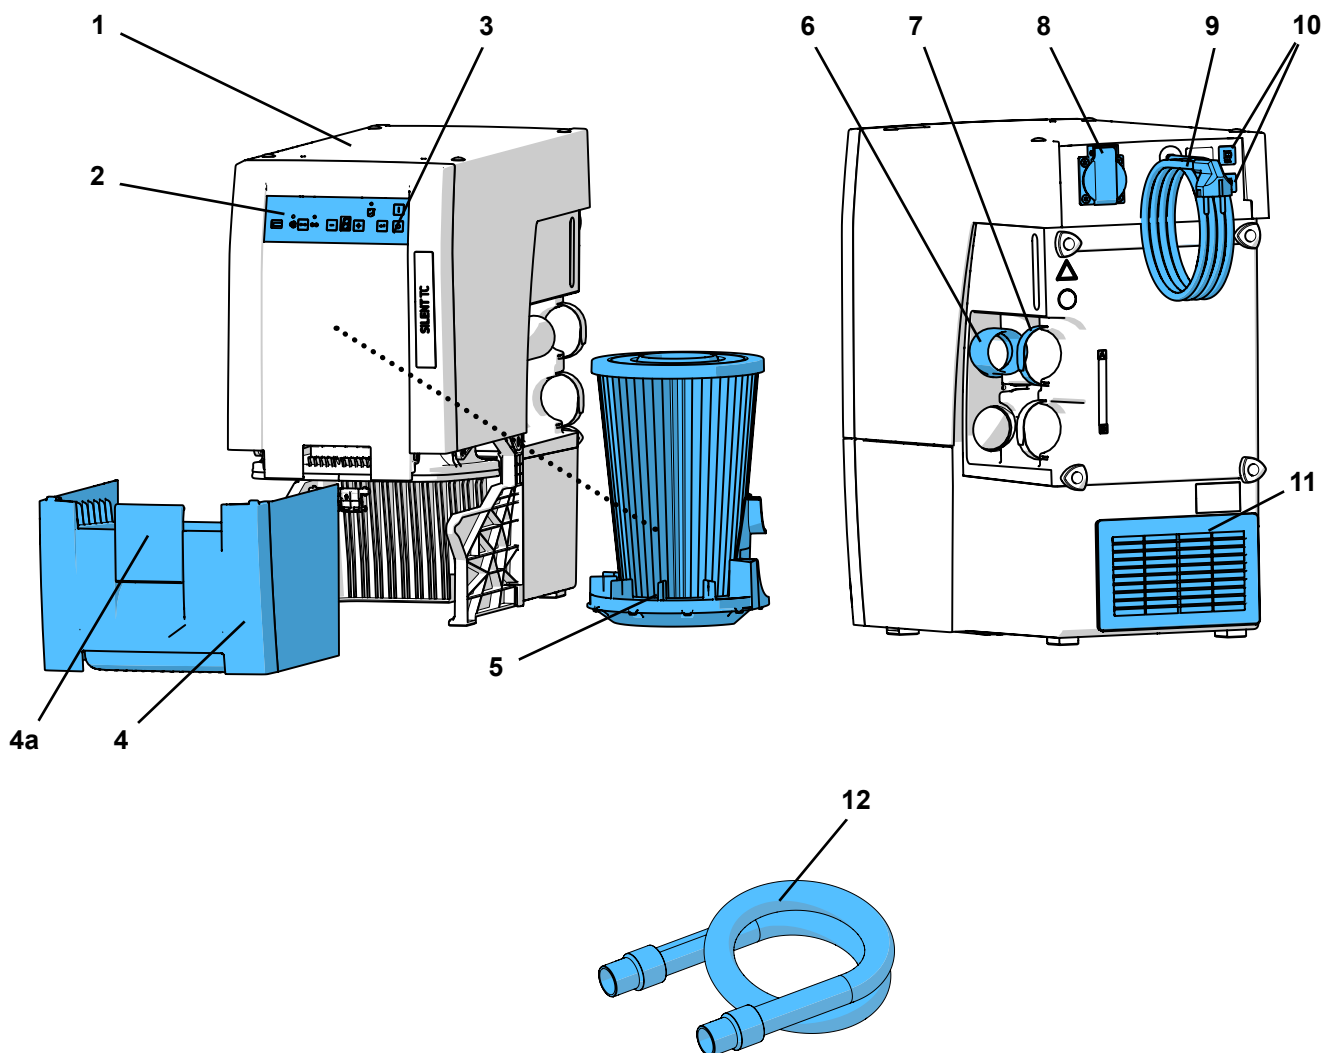

Fig. 1
- the exhaust air outlet (11, Fig. 1) is not blocked.
- External exhaust air vent (A) (see chapter 4.6).
- Opening in the cabinet wall (B), min. 250 x 120 mm, directly opposite the exhaust air outlet (11, Fig. 1).
- Remove the back side of the cabinet (C), distance from the back of the cabinet to the wall min. 50 mm.
- ⇒ Unroll the mains cable (9, Fig. 1) and insert the plug into the building's electrical socket.
The suction is dependent on the electrical device connected to the appliance outlet (8, Fig. 1).